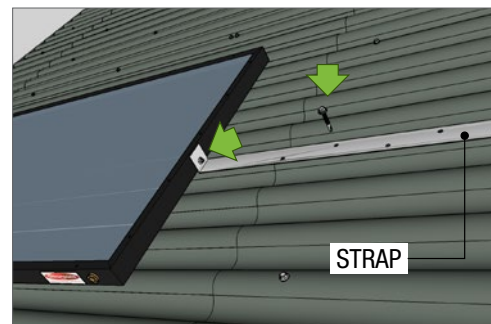

Fig 7
9. Secure the TOP strap/s to the top horizontal section of the collector with the screws supplied (Fig 7). NOTE. Do not use longer screws than those supplied or the copper header pipe in the collector may be pierced, causing leaks